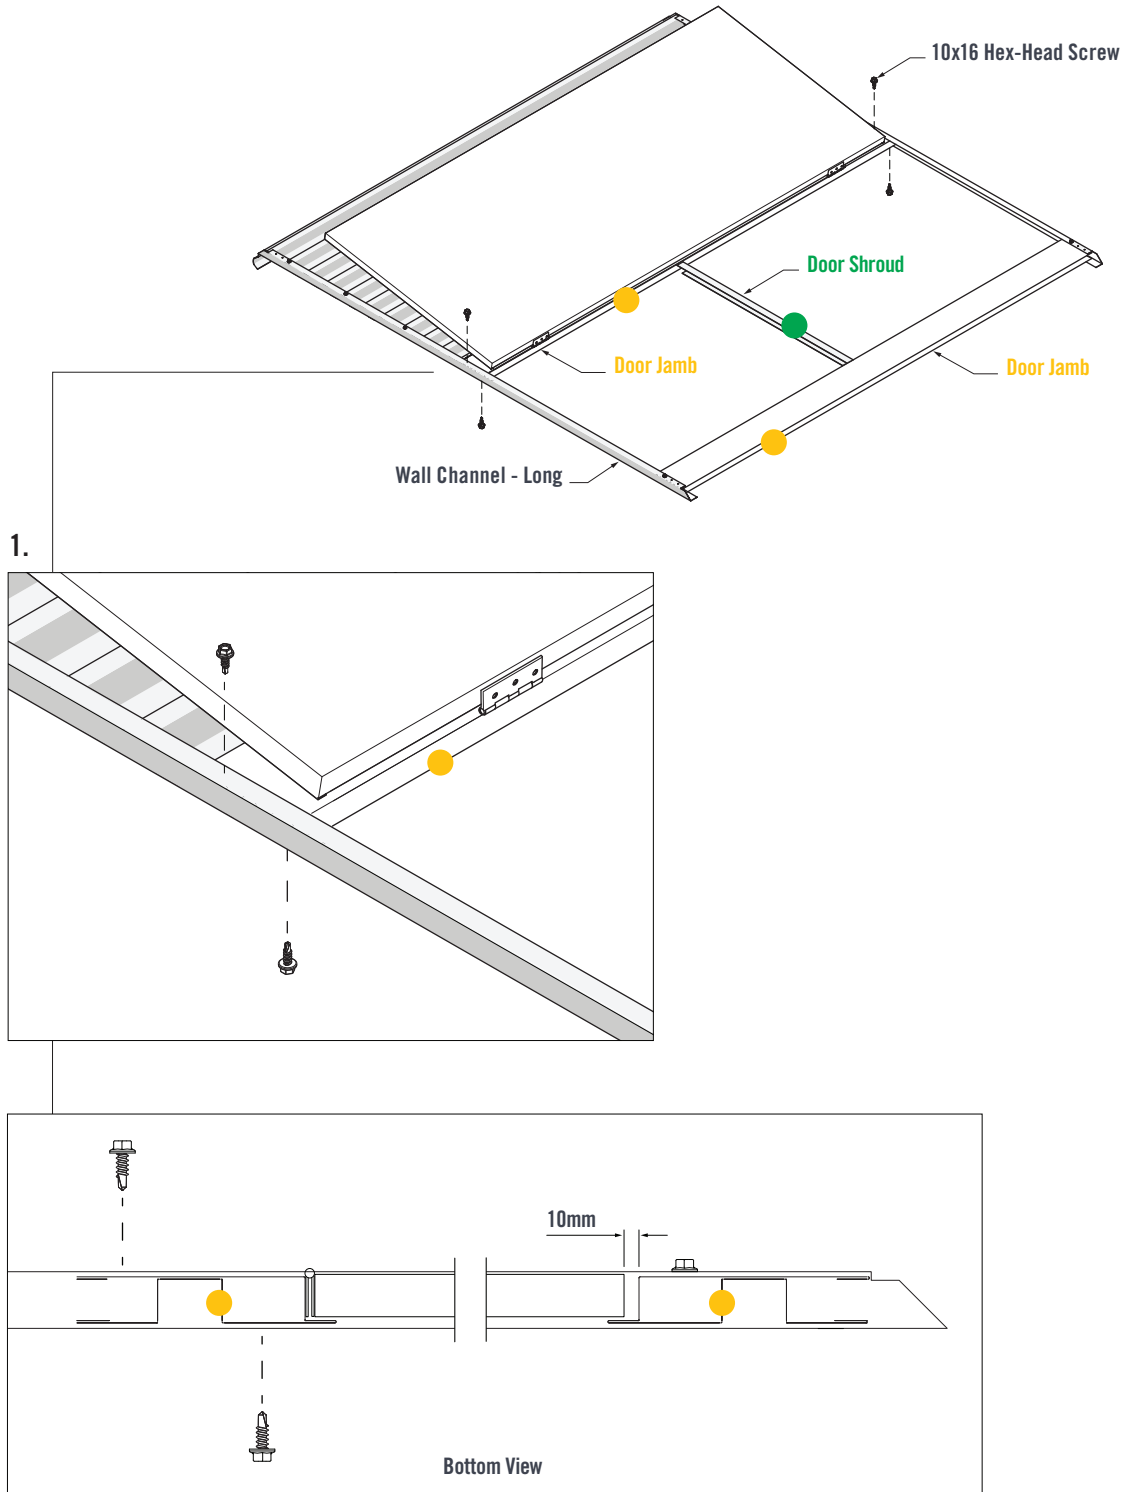

FIGURE 3.3
With the Door open, fit the Door Shroud in-between the Door Jambs. Use the Door Shroud as a guide to set the correct spacing between the Door Jambs (Figure 3.3).
1. Fasten two 10x16 Hex-Head Screws through both Wall Channels and into the Door Jamb. Close the Door and ensure an approximate 10mm gap between the edge of the Door and end Door Jamb (Figure 3.3).